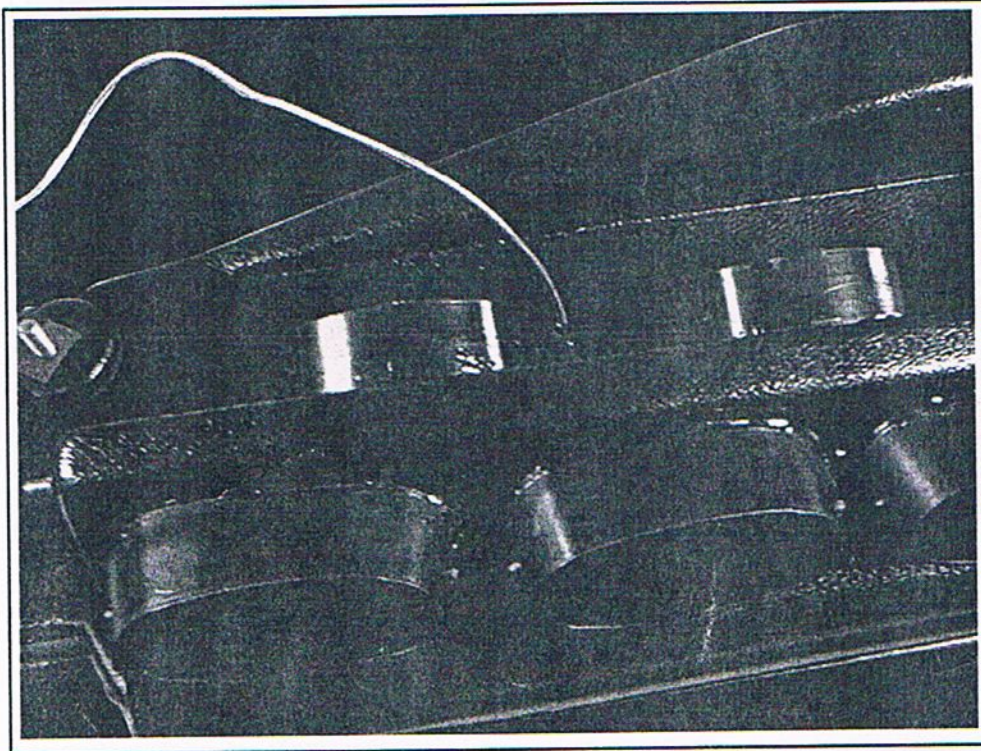

FIGURE 11
24. Obtain the control assembly. Route the thermostat capillary tube to the evaporator and insert into opening in the top center of the case top. (Approx. 3") caution be careful not to break or kink the capillary tube. (FIGURE 11)